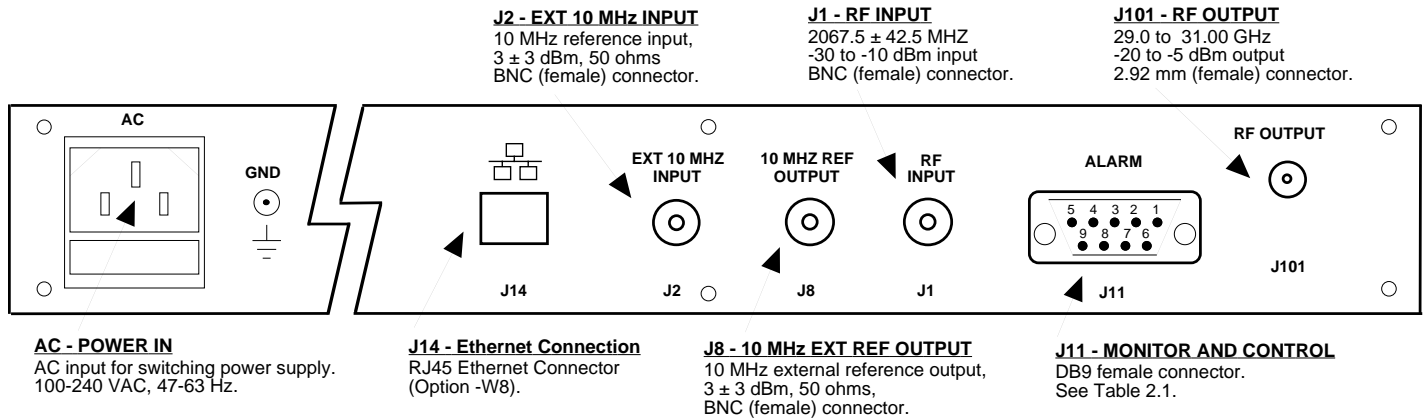

FIGURE 2.1 3115-290#-2075 Rear Panel I/O's
Figure 2.1 shows the input and output connectors on the rear panel.
1. Connect a -30 dBm to -10 dBm signal to RF IN, J1 (Figure 2.1).